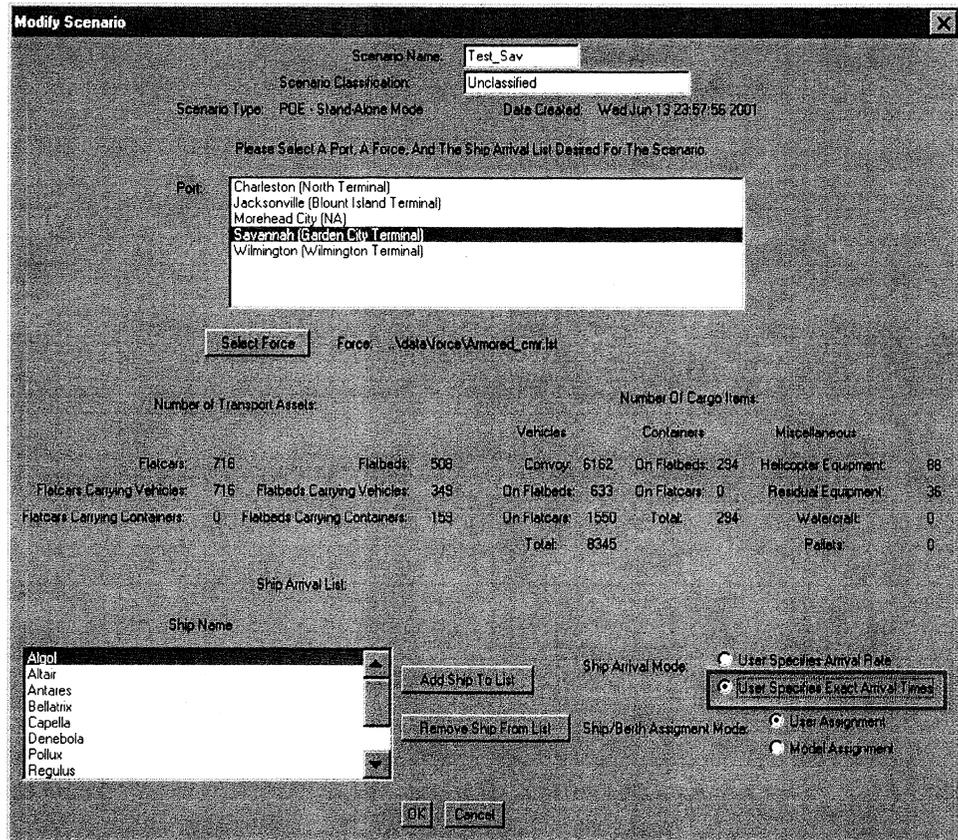

Figure 15: Deterministic Ship Arrival — Option 1
1. When creating a new scenario or modifying an existing scenario, make the following series of choices on the PORTSIM menus and windows (Figure 15):